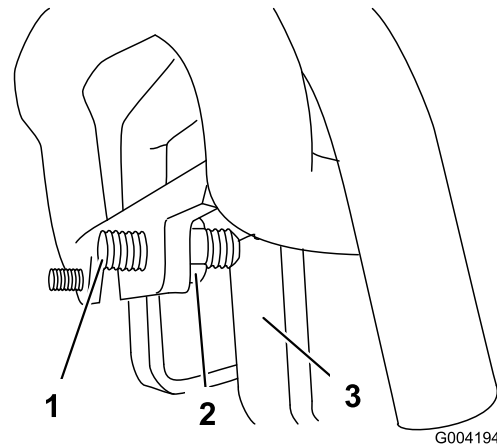

Figure 52
3. If the machine veers to the **left**, loosen the **right** jam nut and adjust the tracking set screw on the front of the traction control (Figure 52).
4. If the machine veers to the **right**, loosen the **left** jam nut and adjust the tracking set screw on the front of the traction control (Figure 52).